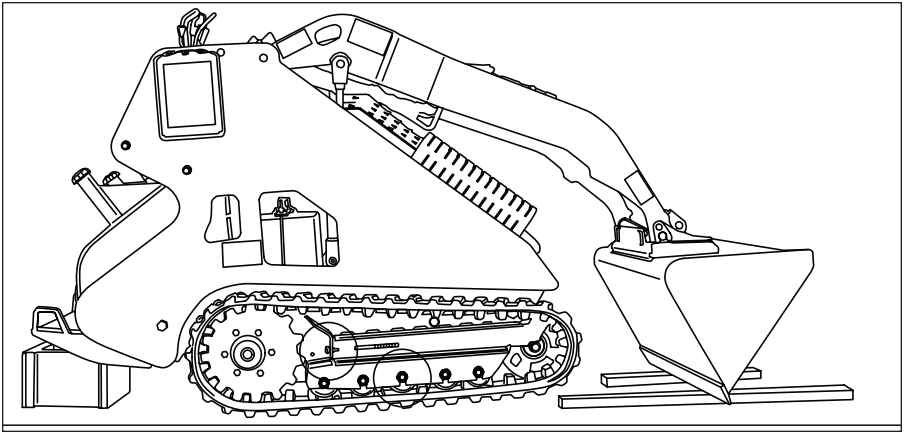

Figure 4-26 Machine Elevation
1. Securely elevate the machine. See Figure 4-26 and Track Tensioning instructions.